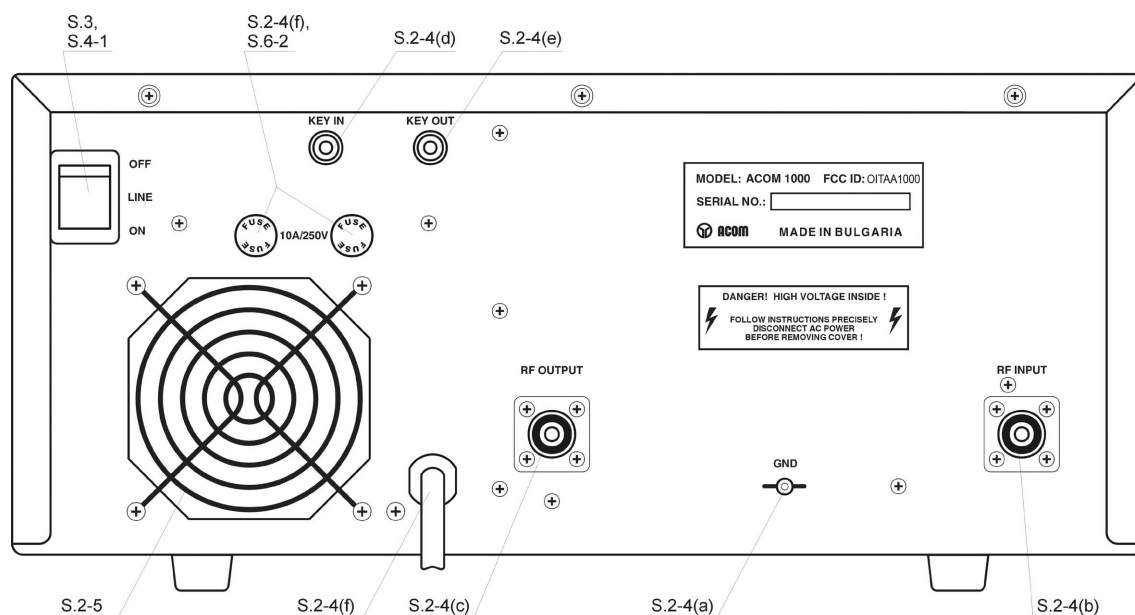
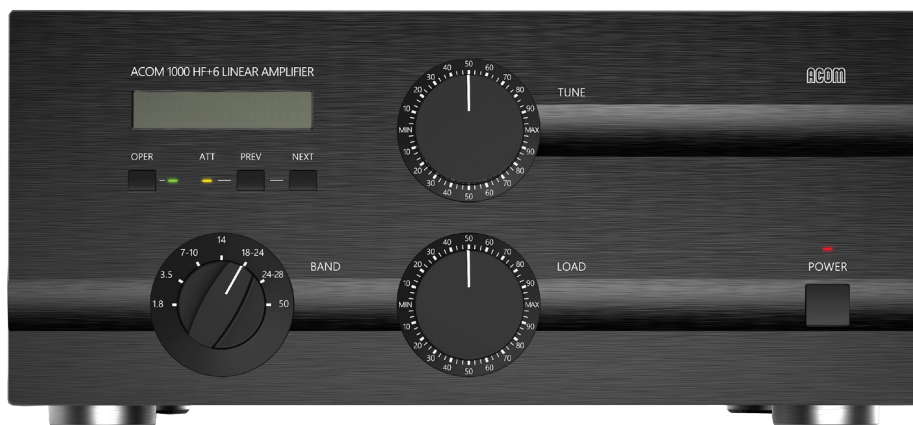

Fig.2-1 Connections
Fig.3-1 ACOM1000 Display and Control
- a) First, connect the ground stud of the amplifier (on the rear panel, marked GND) to the station's grounding system (Fig.2-1).
This fan (Fig. 2-1) is not necessary in SSB and CW modes, nor in continuous carrier modes (RTTY, SSTV etc.) with carrier down times of maximum 15 minutes and a subsequent pause of 3 minutes. For higher duties or increased ambient temperatures the fan is recommended. The auxiliary fan (92x92mm) must be brushless type, 2...5W/24VDC. It may be installed by your dealer or by the manufacturer on request.
After following all instructions in S.2, you can turn ON the main power switch marked "LINE" on the rear panel (Fig.2-1). The LED indicator above the red ON/OFF button located on the front panel must light red and a black inscription "ACOM1000" will appear on the OLED (Fig.3-1):